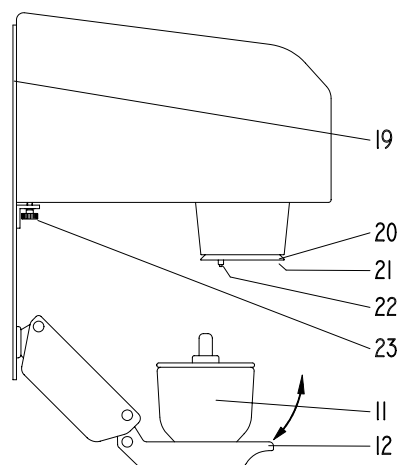
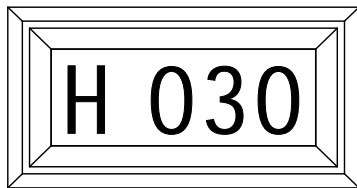
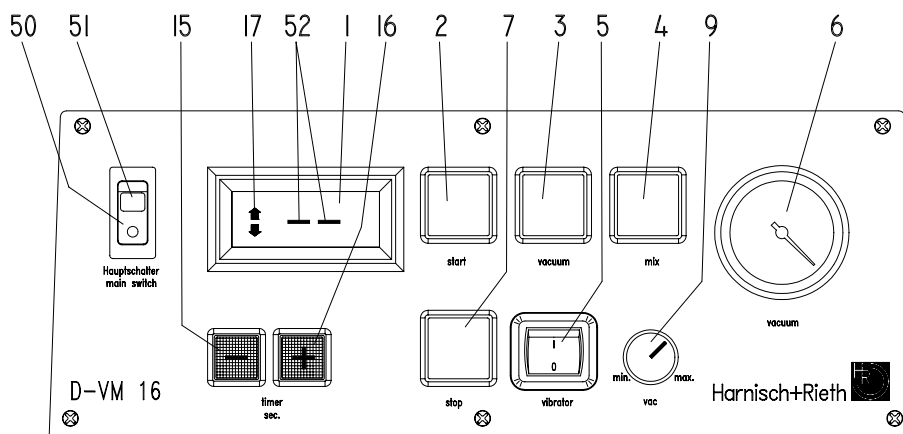

Fig. 1: Wall unit
Abb. 3
Fig. 5: Operating elements
(See fig.1 on page 2 and fig. 5 on page 7)
(See fig. 1 on page 2 and fig. 3 and 4 on page 5 and fig. 5 on page 7)
2. Press the „mix“ switch (4), the display (1) shows the „H“ on the left side (see fig. 3) and on the right side the mixing time (factory-preset to 20 sec.). For setting the mixing time see section "4.6".
3. Place the mixing receptacle (11) with attached stirrers onto the lifting table. Move the lifting table upwards by hand and **keep pressed against the sealing surface**. The stirrer is now coupled. The stirrer is activated and the timer is started.
4. While the timer is activated, you can at any time and as often as you wish switch off and on the stirrer by pressing the „mix“ switch (4).
(See fig. 1 on page 2 and fig. 5 on page 7)
(See fig. 5 on page 7)
(Fig. 5 on page 7)